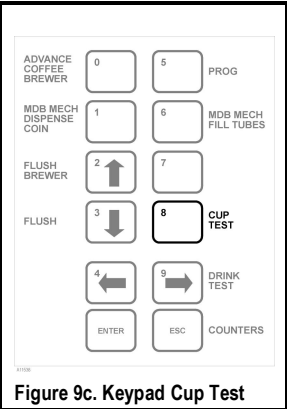

Figure 9c. Keypad Cup Test
4. Find the **internal** keypad on the left side of the door (as viewed from the rear of the door). Press the square marked **"CUP TEST"**. See **Figure 9c**.